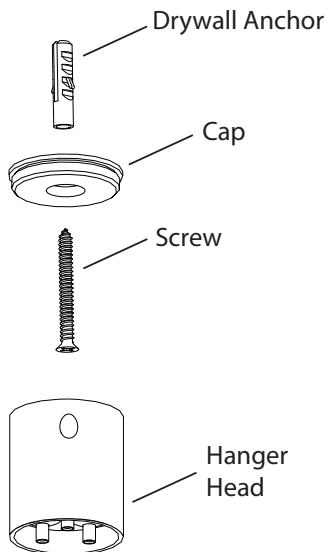

Fig. 2a
1. Mount the Triple Ceiling Hangers (2) by first installing the Caps onto the ceiling 25" apart (Fig. 2d) using the supplied Screws. Use provided Drywall Anchors if no joist is present (Fig. 2a).